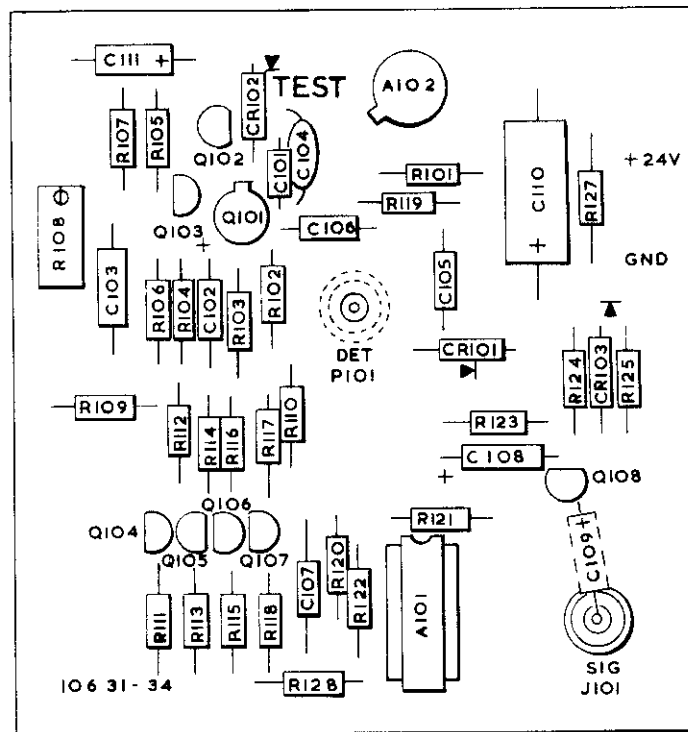

Fig. 2 Pre-Amplifier PCB, component location
13. Refer to figures 2, 3 and 4 for test point and component locations.